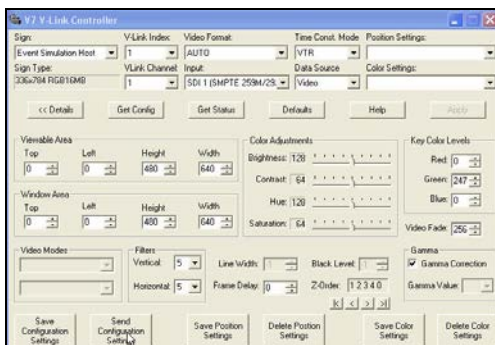

Figure 23: Sending Configuration Settings
- d. Click the **Send Configuration Settings** button on the bottom left. Refer to **Figure 23**.